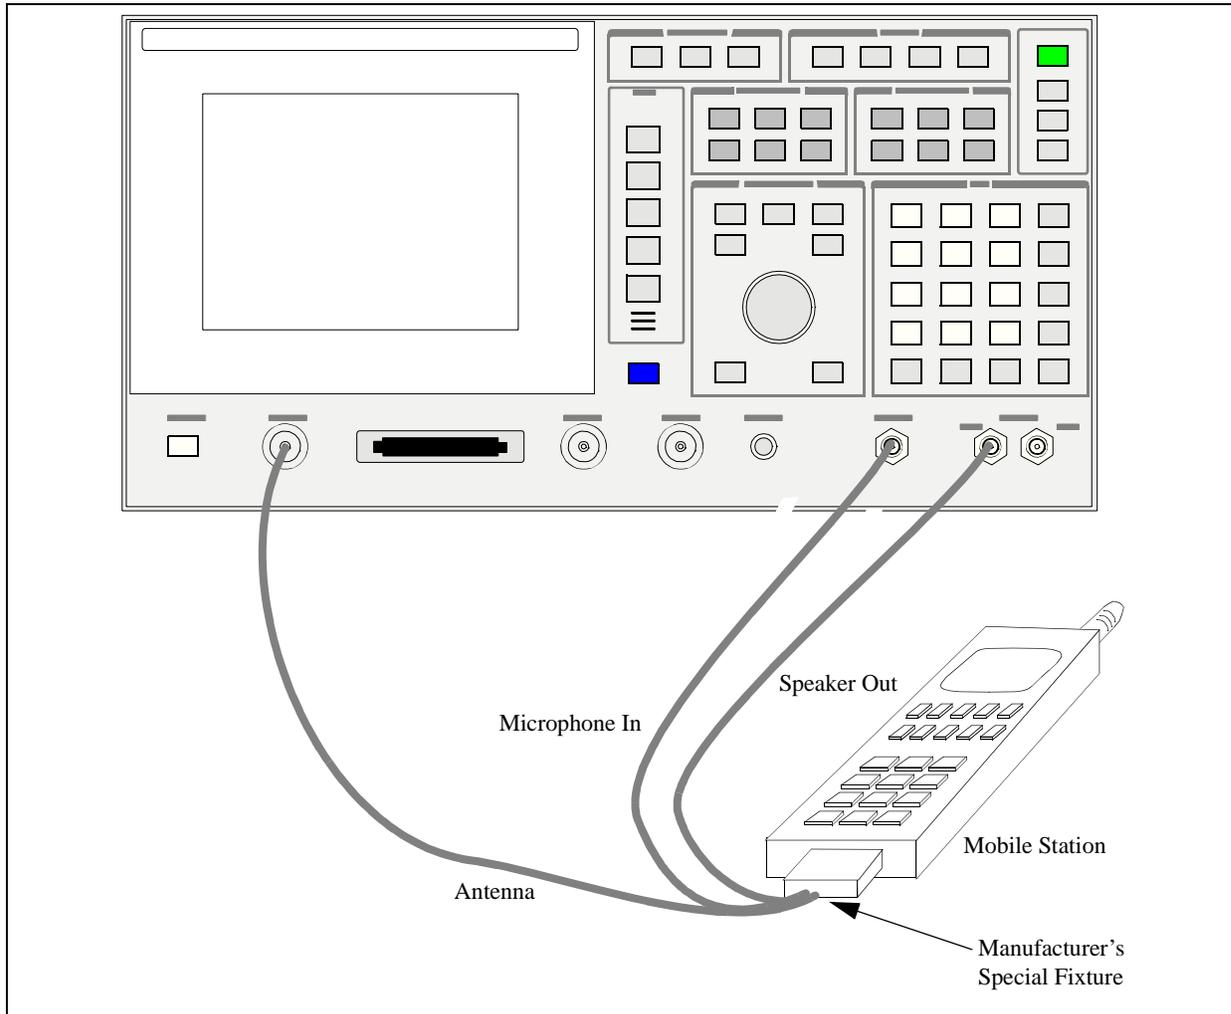

Figure 2 Connecting a Mobile Station to the Test Set
Figure 2, "Connecting a Mobile Station to the Test Set," on page 253 shows a typical example of connecting a mobile station to the Test Set. Many of today's small, handheld mobile stations require special fixtures, available from the mobile station manufacturer, to access the antenna, audio in and audio out on the mobile station.
8. Connect the mobile station to the Test Set as shown in figure 2 on page 253.